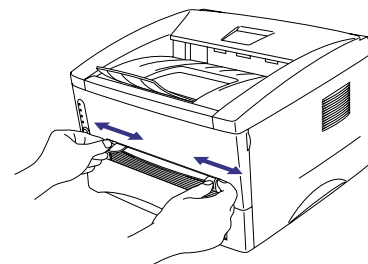

Fig. 2-6
- (2) Set the width of the manual feed slot paper guides using both hands to the paper width to be used. (Fig. 2-6)